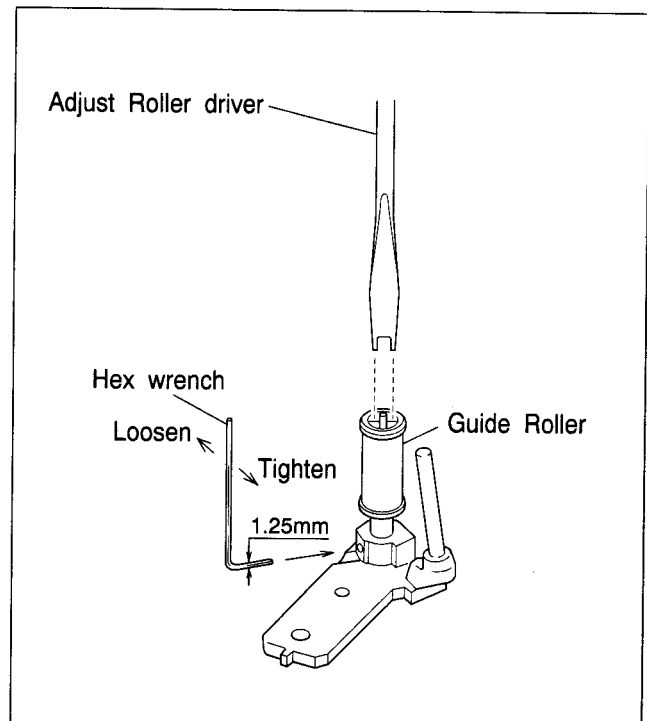
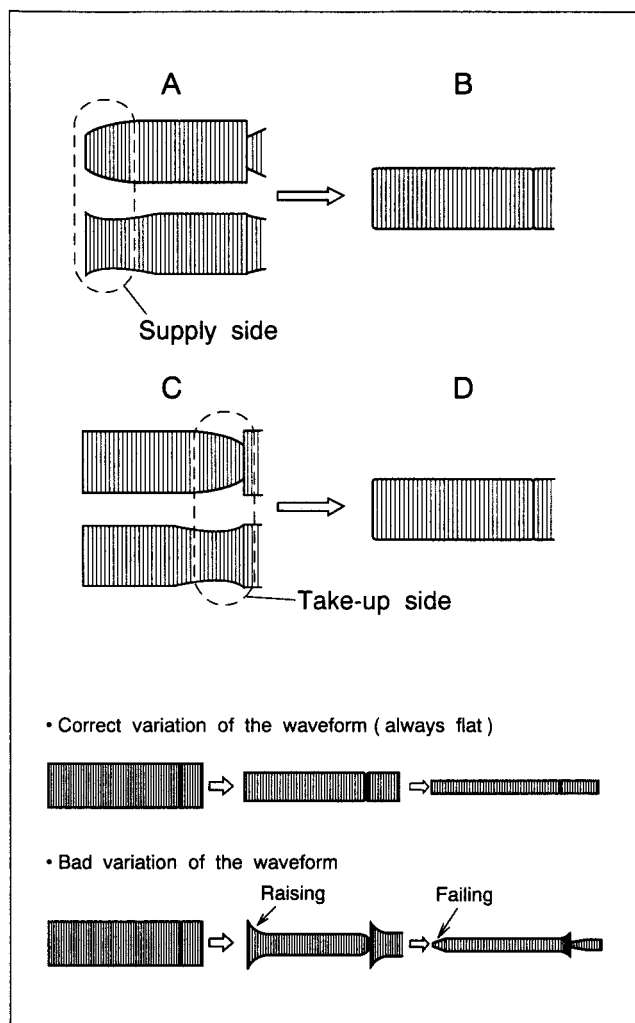
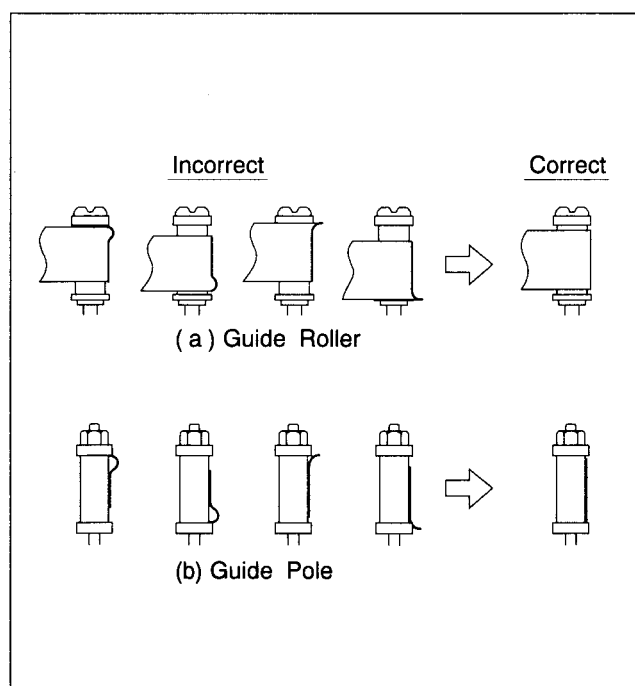

Fig. 2-7-2
Fig. 2-7-3
Fig. 2-7-4
- (6) When the FM waveform does not remain flat during this process, first slightly loosen the set screw located at the bottom of the guide rollers. Using the guide roller adjustment tool (Roller driver), adjust the supply and take-up guide rollers (refer to Fig.2-7-2) to obtain the correct waveform as indicated in Fig.2-7-3.
- (7) By pressing the TV PROG buttons several times, vary the FM waveform output from maximum to minimum (and vice versa) gradually, and confirm that the variation proceeds in flat shape, as shown in Fig.2-7-3.
- (8) Next playback the LP stairstep portion of the alignment tape [MHPE-L] and adjust the tracking control from maximum to minimum the FM waveform, confirm that FM waveform variation is always flat.
- (9) Record the signal and play it back in both of the SP and LP mode, confirm that the FM waveform is flat in both mode.
- (10) After adjustments, tighten the set screw of the guide rollers.
- (11) Confirm that the tape wrinking does not occur at the roller upper or lower limits as indicated in Fig.2-7-4.